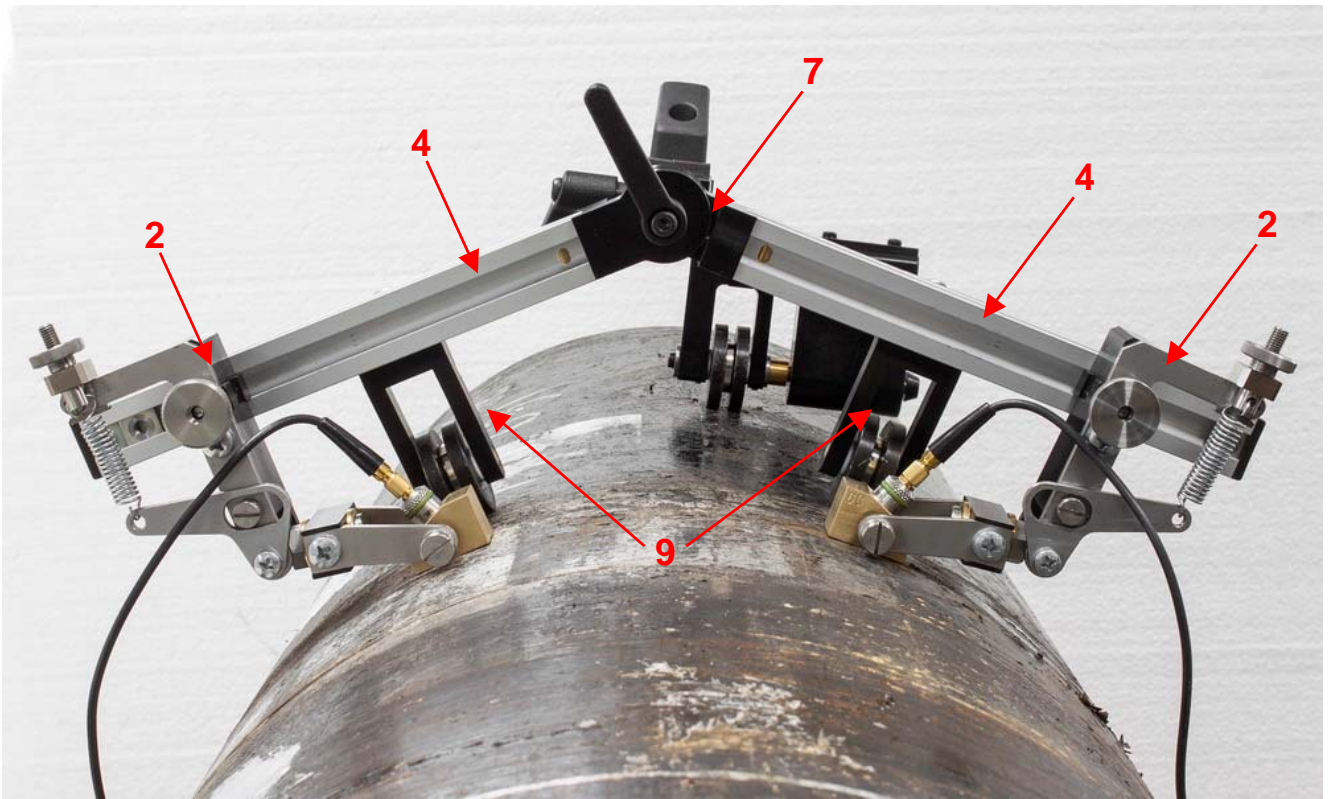

Fig. 6
1. Install the wheels [9] to stay on the rail at the opposite side rail from the Probe Holders [2], as it is shown on the Fig.6 and 7